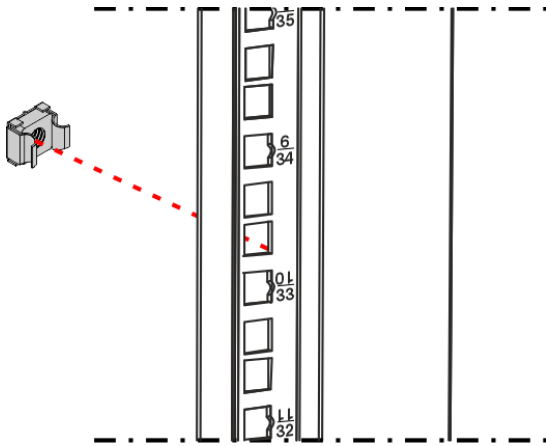

Fig. 43
- 01) Put 4 **cage nuts (L)** in front of the holes on the **vertical brackets (F)** at the place where you want to mount the equipment, as shown in Fig. 43.